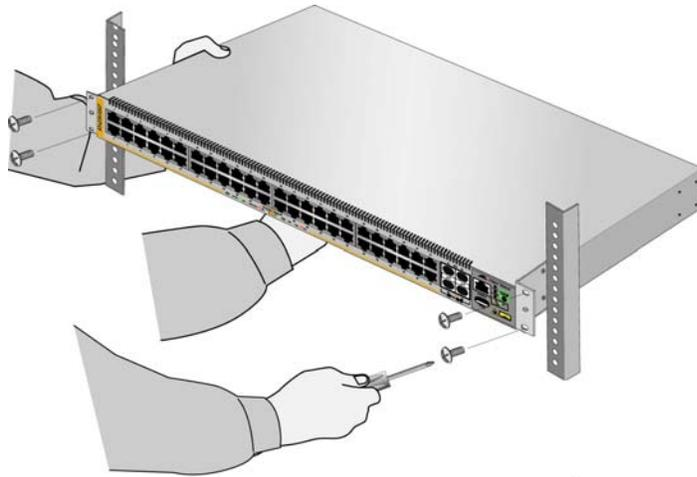

Figure 23. Installing the Switch in an Equipment Rack
4. Have another person hold the switch at the desired location in the equipment rack while you secure it using four standard equipment rack screws (not provided). Refer to Figure 23 on page 56.